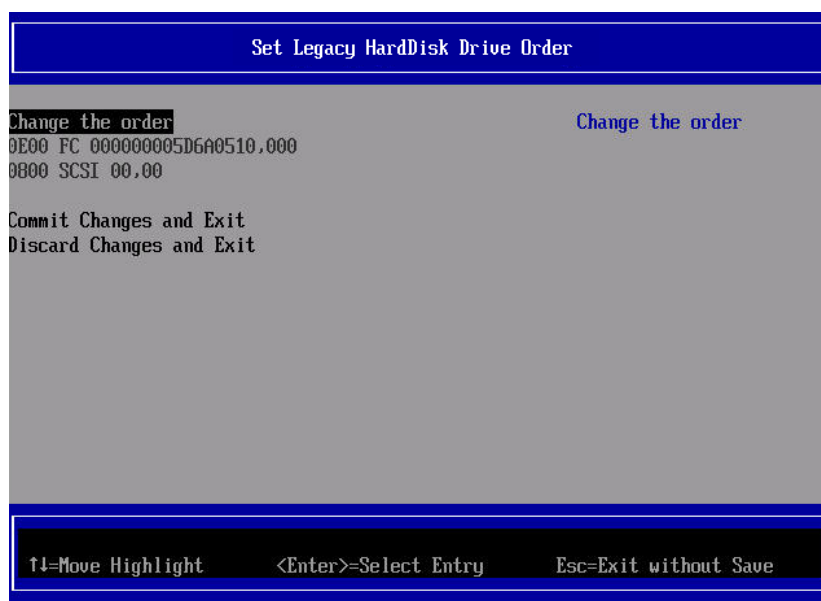

Figure 5.6
4. If you press <Enter> key, you return to previous screen "Figure 5.6" [Set Legacy HardDisk Drive Order] screen. In that screen, select [Commit Changes and Exit], and press <Enter> key. Press <Esc> to return to "Figure 5.3" Boot Manager front page.